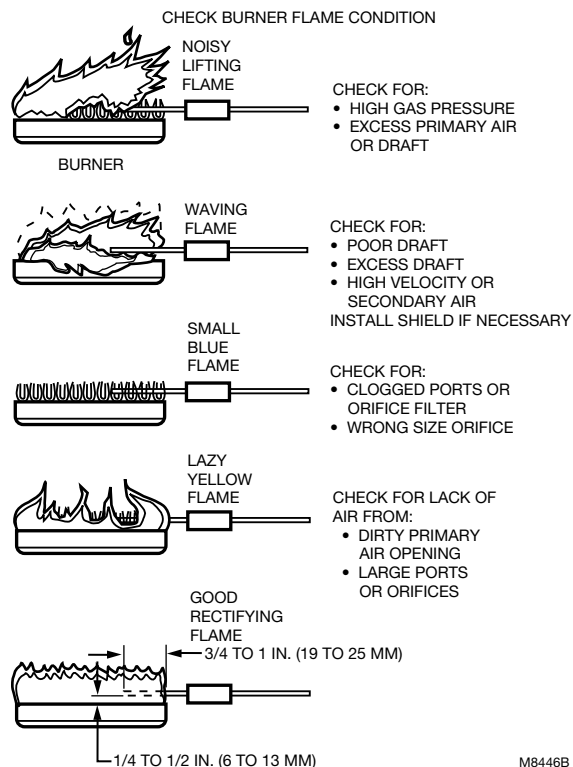

Fig. 5. Check burner flame condition.
- Check the burner flame condition. The igniter-sensor or sensor must be constantly immersed in flame. Check the burner flame condition as shown in Fig. 5. Do not relocate the hot surface igniter or flame rod.
- a. Make sure the burner flame is capable of providing a good rectification signal. See Fig. 5.
- b. Make sure about 3/4 to 1 in. of the flame sensor or igniter-sensor is continuously immersed in the flame for the best flame signal. See Fig. 5.